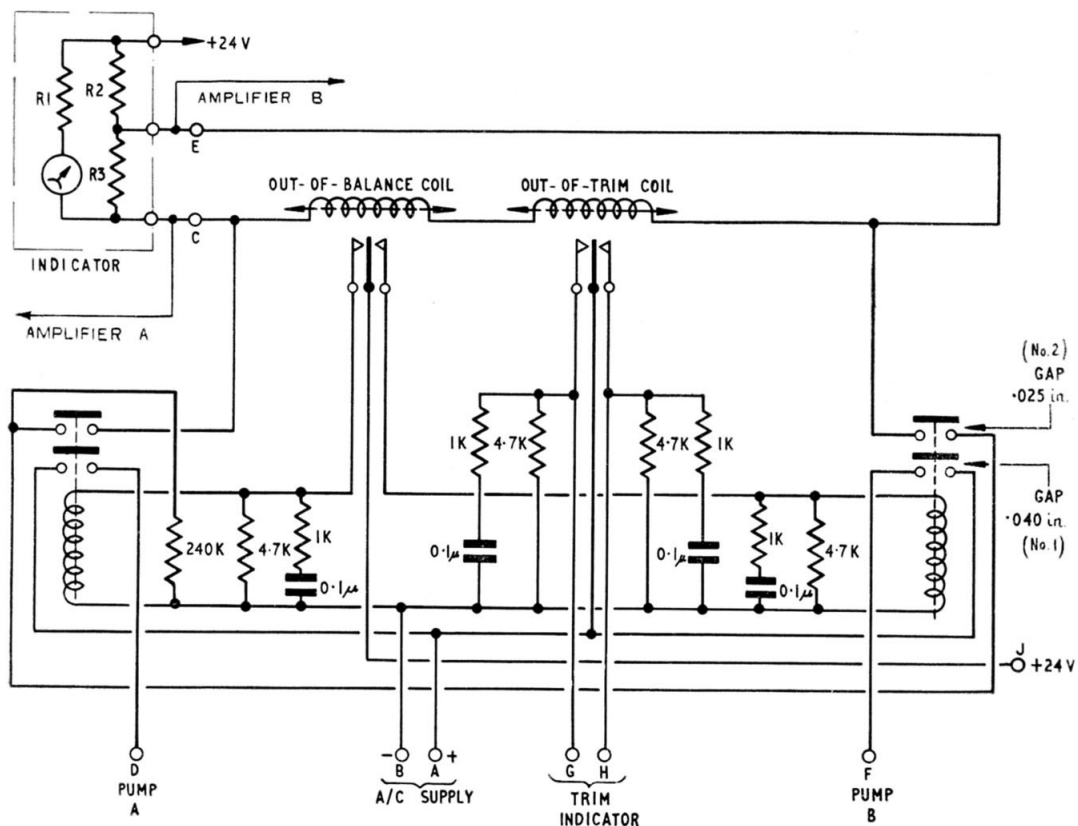

Fig. 4. Circuit diagram
4. A circuit diagram of the balancer relay is given in fig. 4. If the currents between
amplifiers A and B and the indicator are in the correct ratio to each other, there will be no voltage drop across the resistor R3 and no current will pass through the resistor. If, however, an out-of-balance current has been set up between the amplifiers, a P.D. will be created across R3, and current will flow, both through R3 and through the two moving coils, shown in fig. 4 as the "out-of-balance coil" and the "out-of-trim coil".